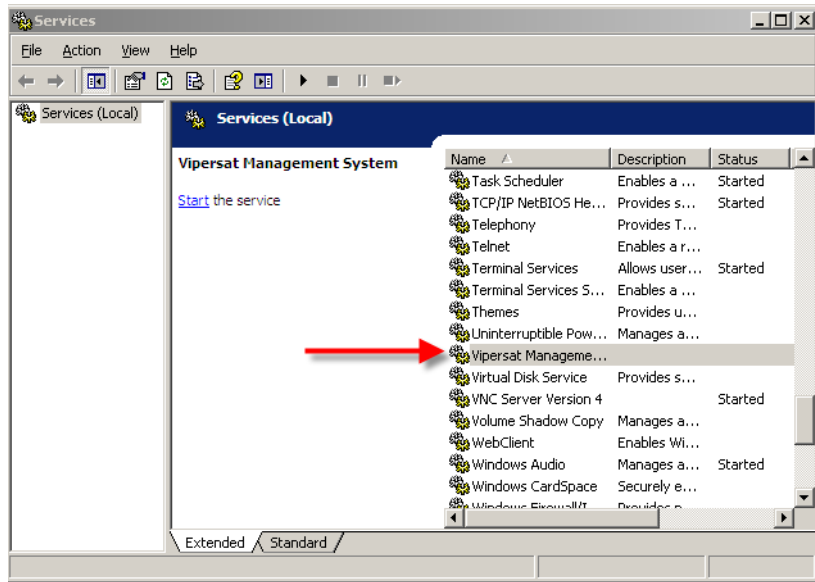

Figure 2-33 Vipersat Management System Service
2. Select **Vipersat Management System** from the Services list as shown in figure 2-33, then click on **Start** the service.